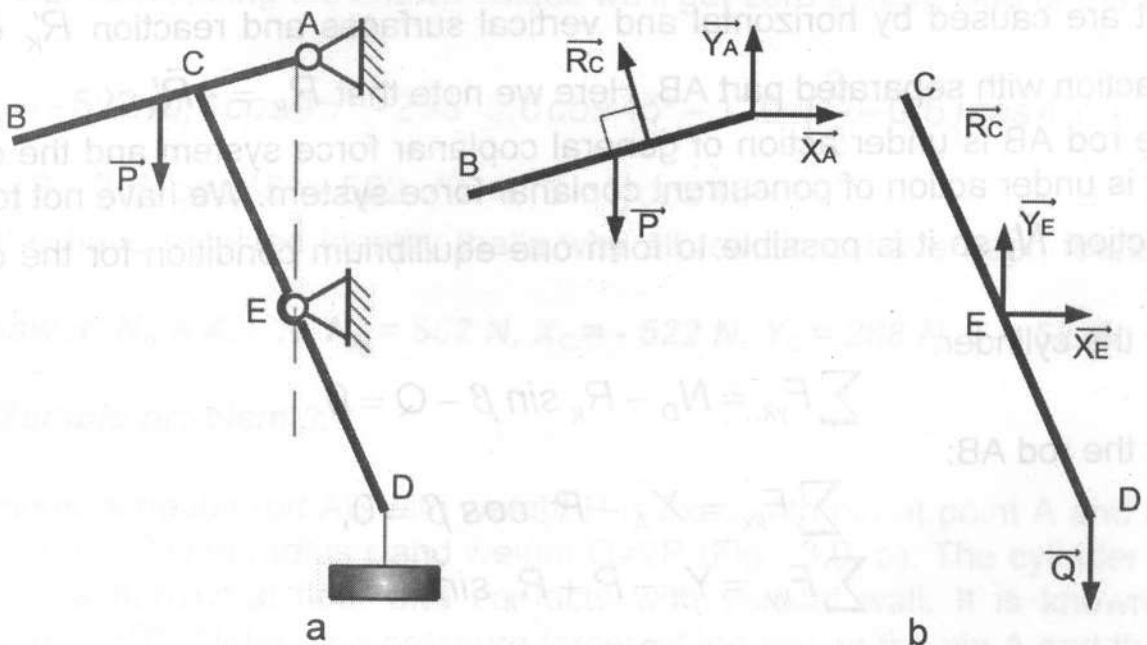

Fig. 3.10
Smooth rods AB and CD (Fig. 3.10, a) are fixed with pins at points A and E correspondingly and adjoin at point C. The distances are known  $AB=CD=2l$ ,  $AE=CE=DE=l$ . Weight of homogeneous bar AB is equal to  $P$ , weight of load  $Q$  is  $2P$ . Determine angle  $\gamma$  in a position of equilibrium.
- Form FBD for each part of the system (Fig. 3.10, b). The rod AB is under action of weight  $P$ , reaction  $\vec{R}_C$  and reactions  $\vec{X}_A, \vec{Y}_A$  that are caused by pin joint at the point A. The rod CD is under action of applied force  $Q$  as weight of a load, reactions  $\vec{X}_E, \vec{Y}_E$  that are caused by pin joint and reaction  $\vec{R}'_C$  of interaction with separated part AB. Here we note that  $\vec{R}_C = -\vec{R}'_C$ .